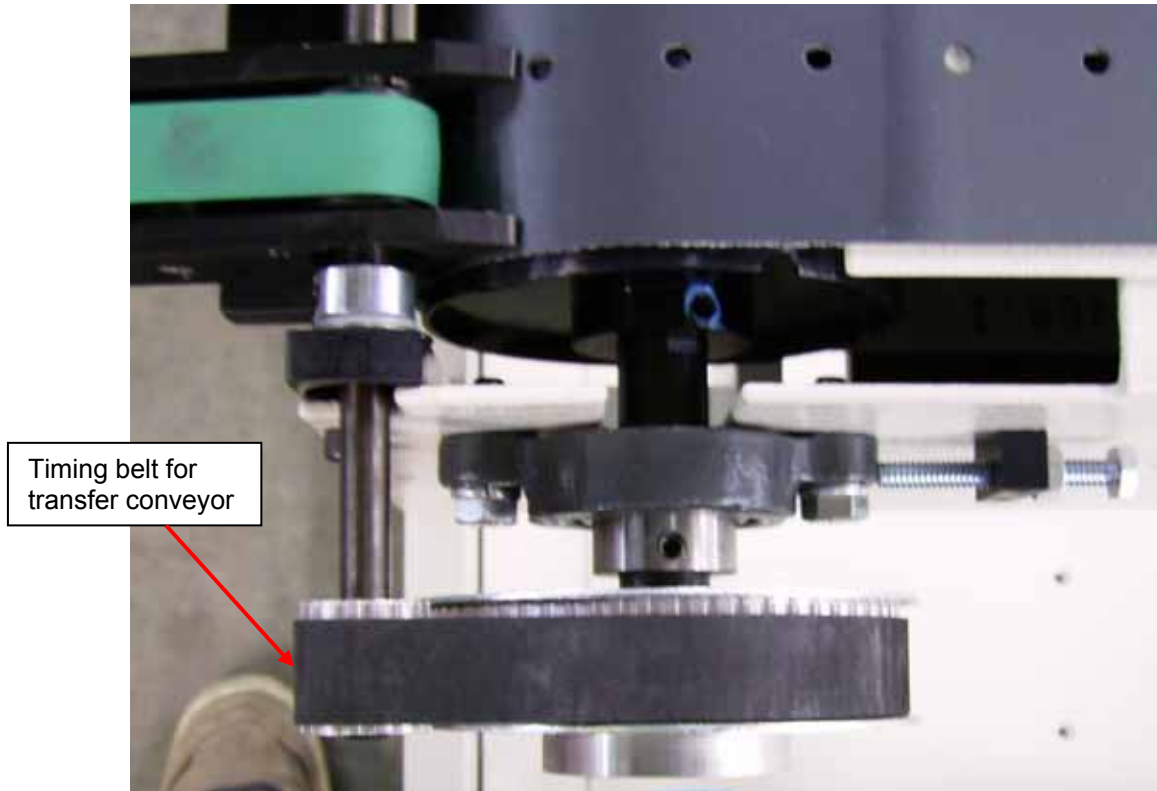

Figure IV-12
- f. Remove timing belt and lift out transfer conveyor and set aside. See figure IV-12.